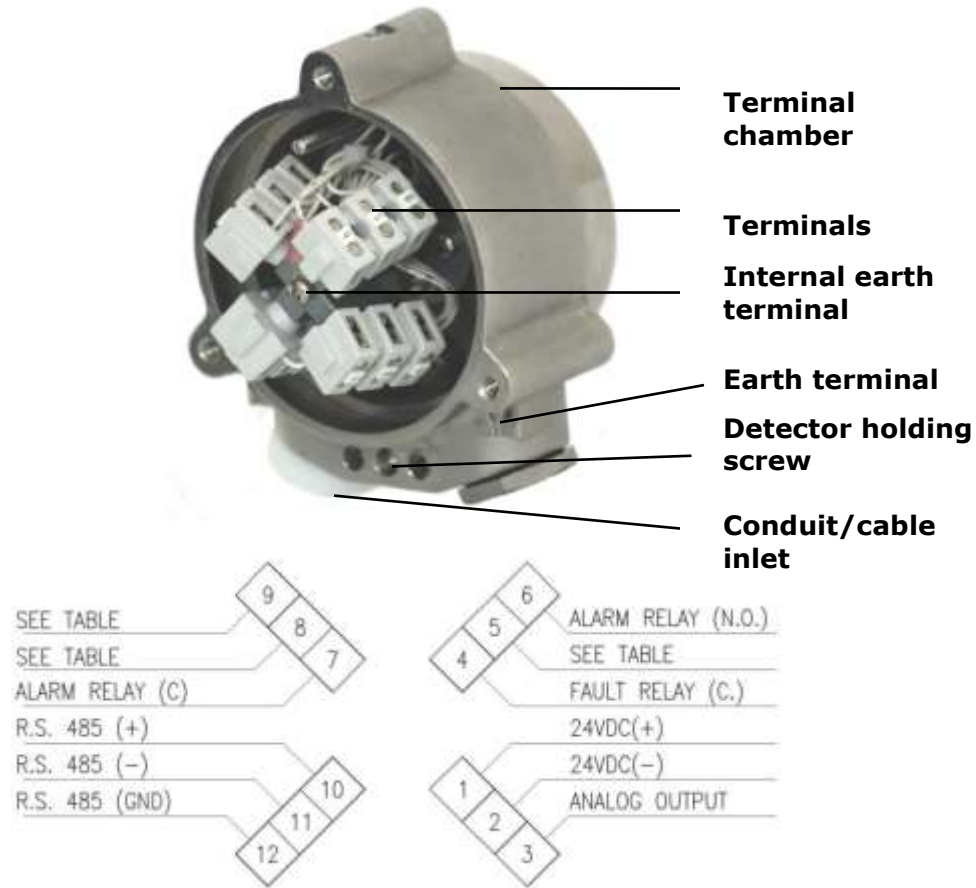

Figure 7: Detector with Cover Removed
This section describes how to connect the electric cabling to the detector (Figure 7).
- 5 Connect the wires to the required terminals on the terminal board according to the wiring diagram (Figure 7) and Table 14.